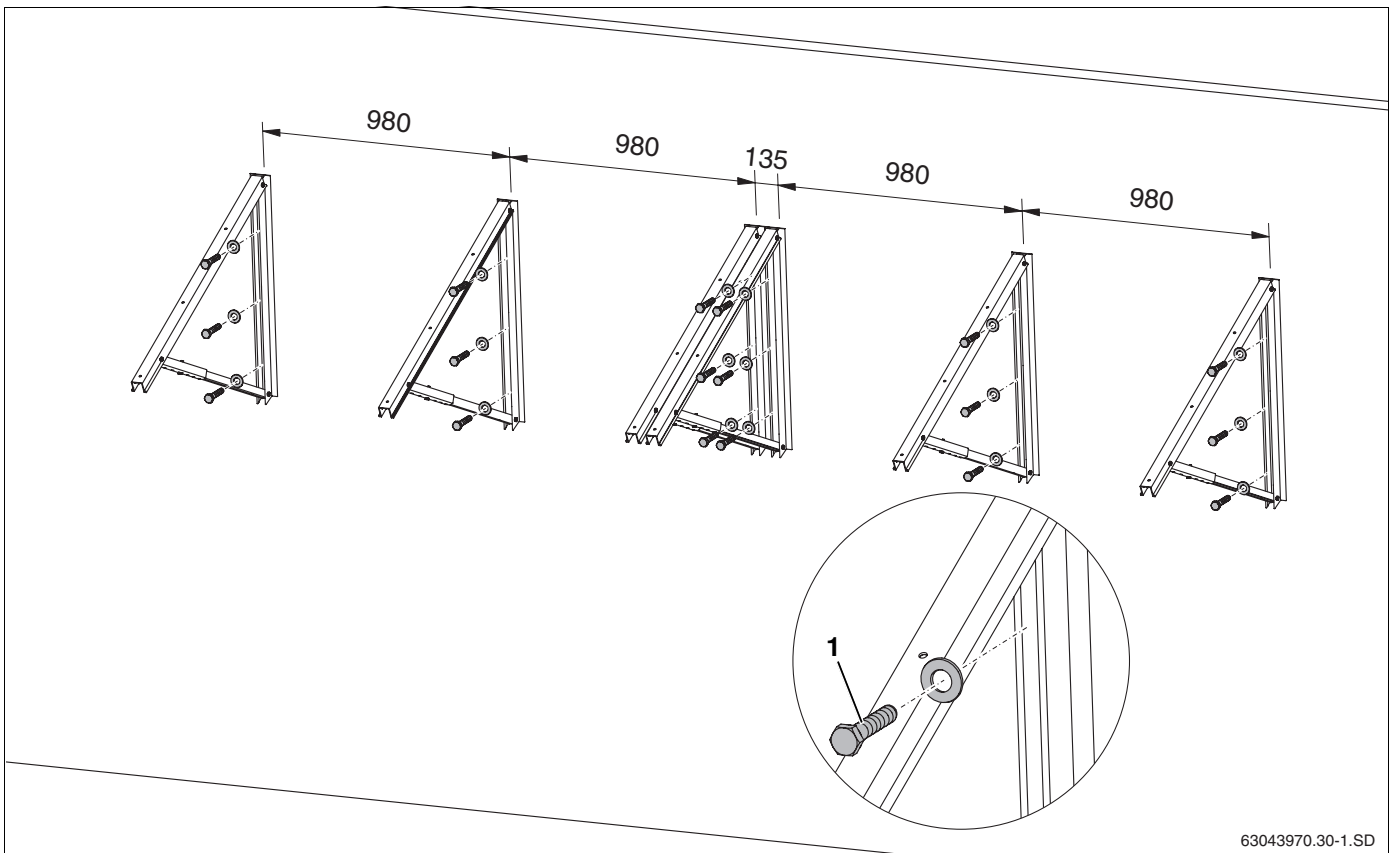

Fig. 30 Fastening collector braces to the wall (for 2 collectors, dimensions in mm)
- Use 3 screws to fasten each collector brace to the wall (see Tab. 9, Fig. 30, **Pos. 1**).